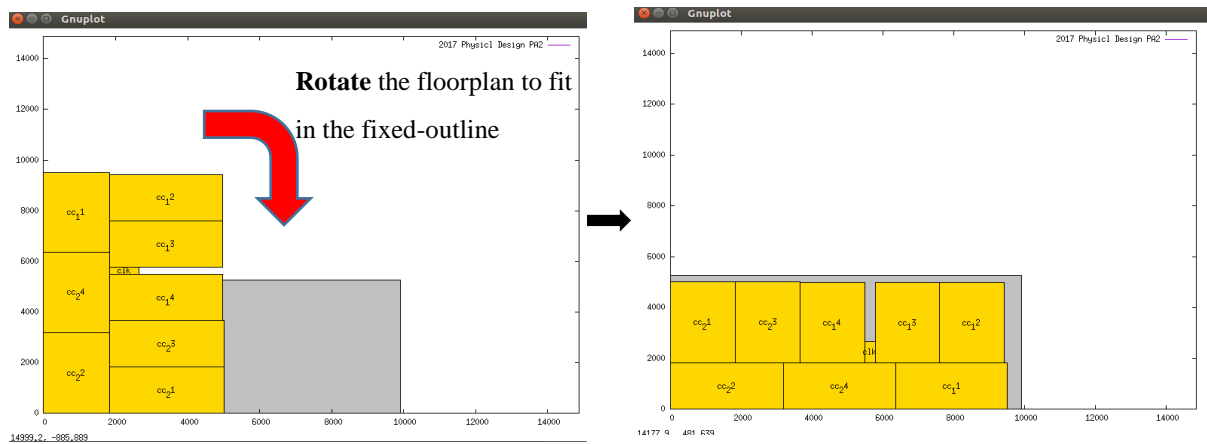

Figure 4
**Q2: Sometimes, the floorplan will converge to a solution that can fit in the fixed-outline region if we rotate it (shown in Figure 4). How can we deal with it?**